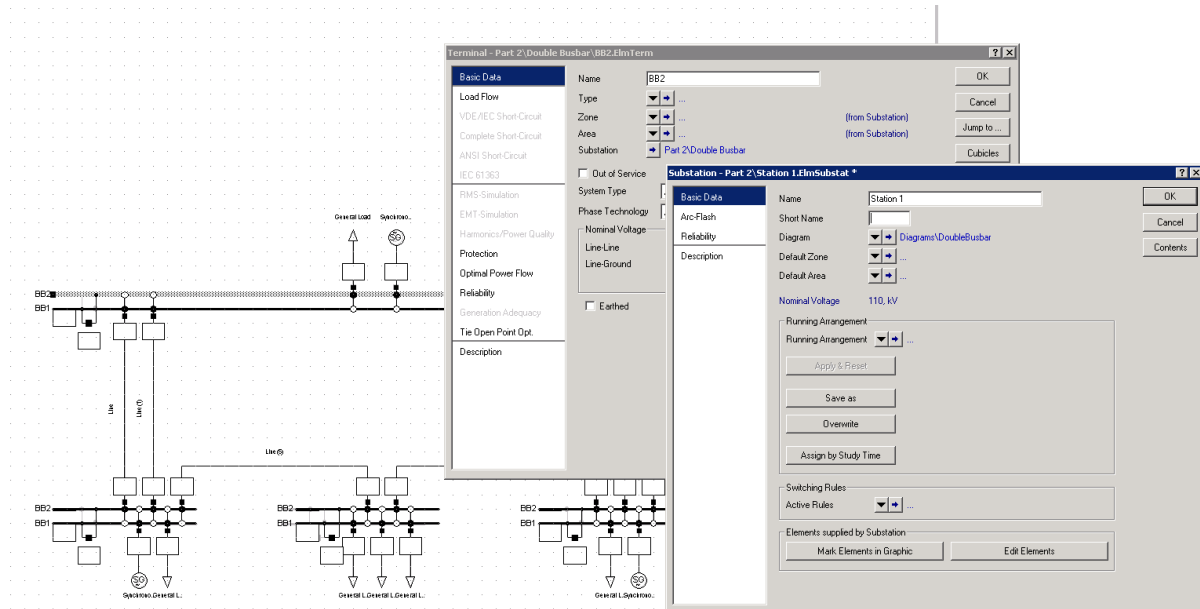

Figure F.2.1: Renaming substations
- Rename the upper substation to “Station 1” as shown in Figure F.2.1.